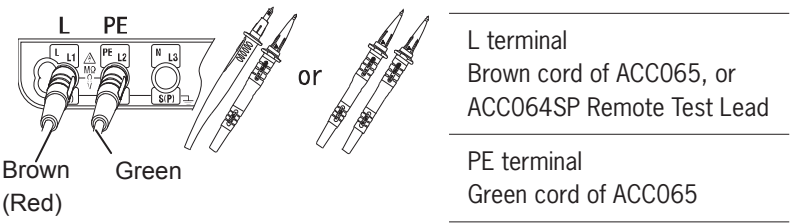

Fig. 12
- 2 Insert the Test Leads to the L and PE terminal on KT65 respectively as shown in Fig.12.